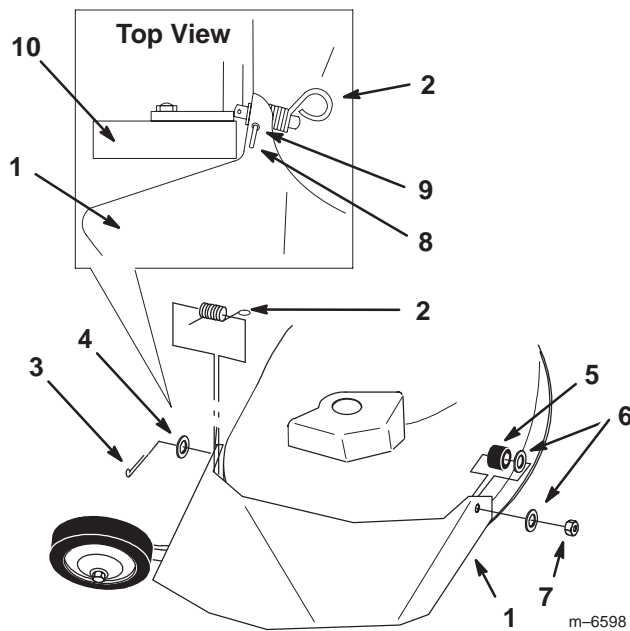

Figure 2
1. Locate items shown in Figure 2.
2. Place the straight end of the spring into the small hole in the discharge chute (Fig. 2).
3. Position the spring and discharge chute over post on rear of deck and secure with a washer (1/2 inch) and a cotter pin (3/4 inch) (Fig. 2).
5. Place the discharge chute over the stud and secure it with a plastic washer and jam nut (3/8 inch) (Fig. 2).